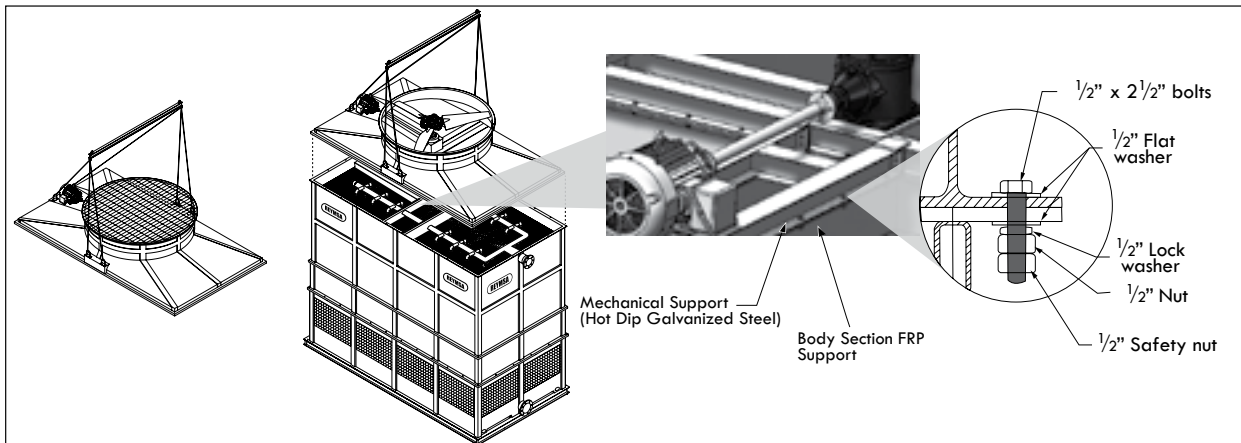

Figure A-52: Fan Deck installation of an RTG and RTGTC Tower with motor installed outside the airstream.
- W.** After installing the fan deck section, access to inside the fan deck section and bolt down the Galvanized Steel mechanical support to the Fiberglass (FRP) support (see Figure A-52). The Galvanized Steel mechanical support is built in a “T” shaped configuration and this base must be bolted to the Fiberglass (FRP) support in the upper section on which it sets. The bolts must be installed on the full perimeter of the “T” shaped mechanical support. Access to perform this assembly inside the tower is through the fan guard access door (except for 8’ wide models which require removal of the fan guard).